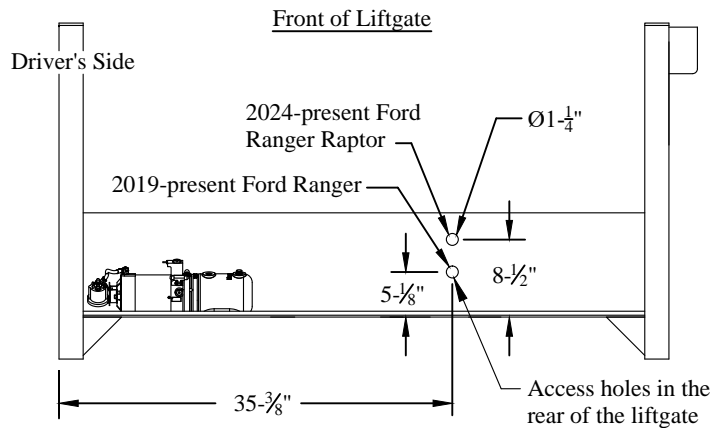

Figure 12: Spare tire access.
2. **Remove** and **Discard** the black plastic plug from the mainframe in the location shown or **Drill** a hole as indicated if one does not exist (Figure 12).